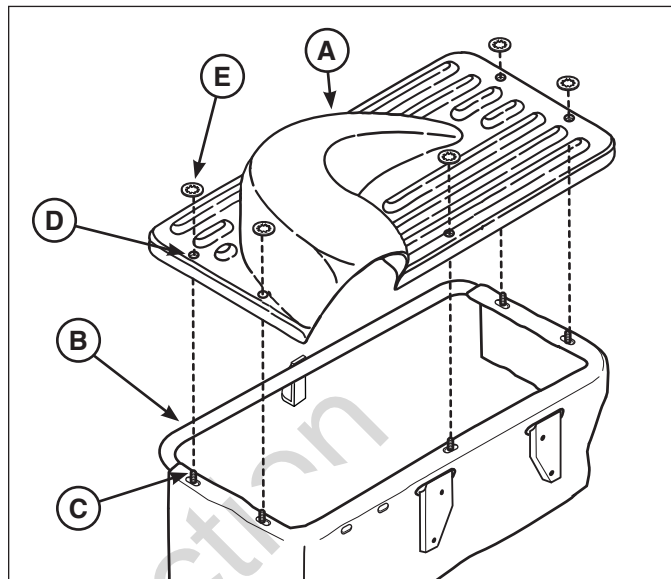

Figure 6
1. Place the cover (A, Figure 6) over the top of the grass catcher assembly (B), and insert the frame pegs (C) through the holes (D) in the cover.
2. Using a 1/2" socket wrench, secure the capped washer nuts (E) onto the frame pegs.